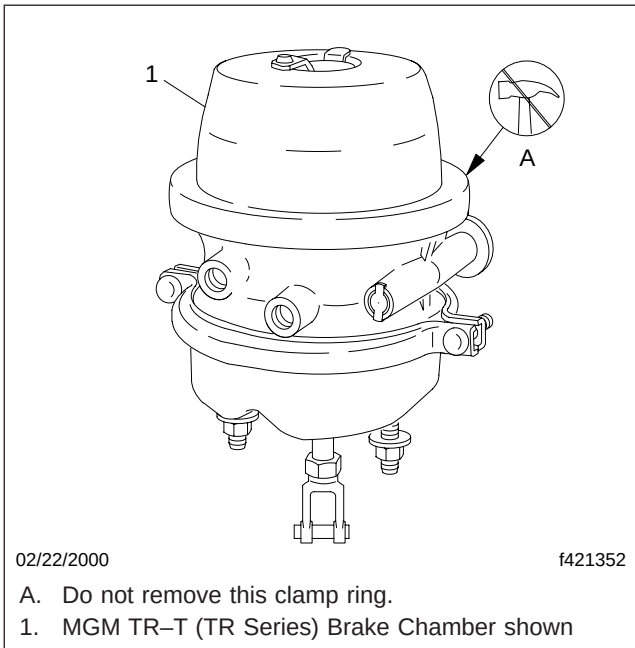

Fig. 11.9, Parking Brake Chamber Clamp
- 22.5 On all parking brake installations, make sure the end cover cap or dust plug is securely snapped into place. See Fig. 11.9.